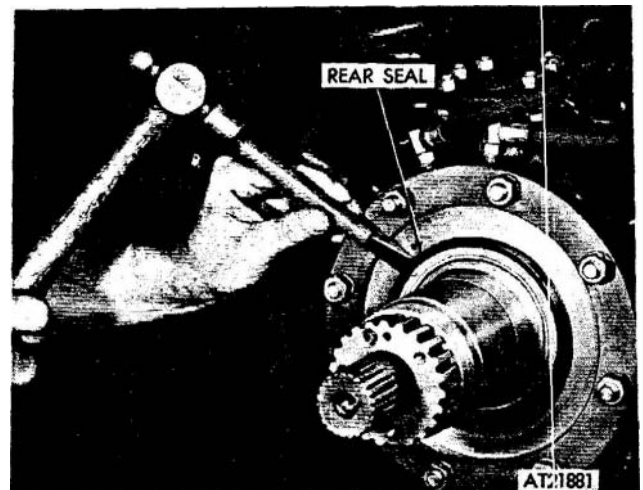

Figure 2-228. Rear seal removal.
(23) Using a suitable tool, remove rear seal from spindle (fig 2-228).